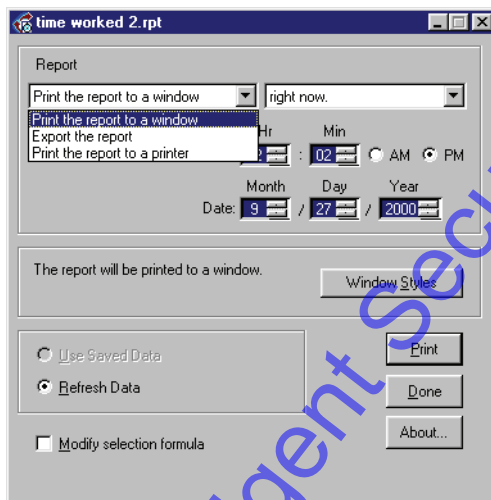

Figure 7-4: Report Options Window
7. Once you have entered a valid date range, the Report Options window will appear (see Figure 7-4). You are now ready to generate the report output.
1. To view the formatted report on the computer, click on the  on the left side of the “Report” field in the Report Options window and select Print the report to a window (see Figure 7-4 on page 4 of this section).
2. To select when you want to view the report, click on the  on the right side of the “Report” field and select “right now” (see Figure 7-4 on page 4 of this section).
5. Once all your options have been chosen, click on the  button. This will return you to the Report Options window (see Figure 7-4 on page 4 of this section).
1. To save the formatted report to file, click on the  on the left side of the “Report” field in the Report Options window and select Export the report (see Figure 7-4 on page 4 of this section).
2. To select when you want to save the report, click on the  on the right side of the “Report” field and select “right now” (see Figure 7-4 on page 4 of this section).
7. When all your selections have been made, you will be returned to the Report Options window (see Figure 7-4 on page 4 of this section).
1. To print the formatted report, click on the  on the left side of the “Report” field in the Report Options window and select Print the report to a printer (see Figure 7-4 on page 4 of this section).
2. To select when you want to print the report, click on the  on the right side of the “Report” field. For this example, select “right now” (see Figure 7-4 on page 4 of this section).
6. Once you have made your printer selection, click on the buttons until you return to the Report Options window (see Figure 7-4 on page 4 of this section).